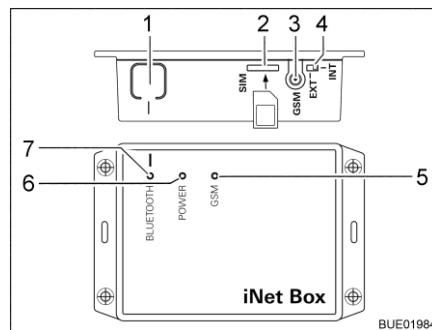

Fig. 59 Truma iNet-Box
- Press the BLUETOOTH button (Fig. 59,1) on the iNet-Box for 1 second. The Truma iNet-Box will be visible in the mobile terminal for approx. 2 minutes (name: "Truma iNet-Box"). During this period, the blue BLUETOOTH LED (Fig. 59,7) will be flashing.
- Carefully insert the mini SIM card with own telephone number and sufficient credit into the slot (Fig. 59,2) of the Truma iNet-Box as shown until it engages. The red GSM LED (Fig. 59,5) must be flashing continuously. If the red LED goes out after 20 seconds: Check mini SIM card.